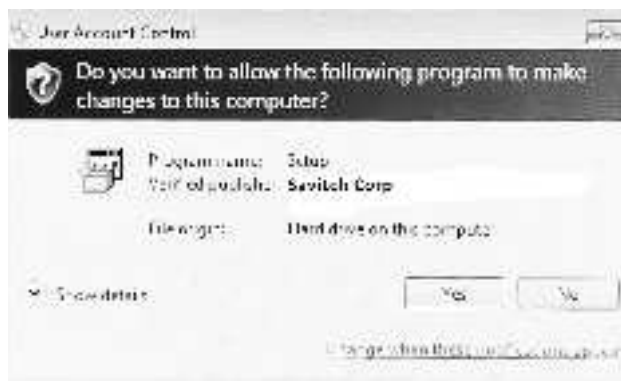

Figure 11– Installing USB Driver Software
- Choose “Yes” to allow changes to your computer (See Figure 11)